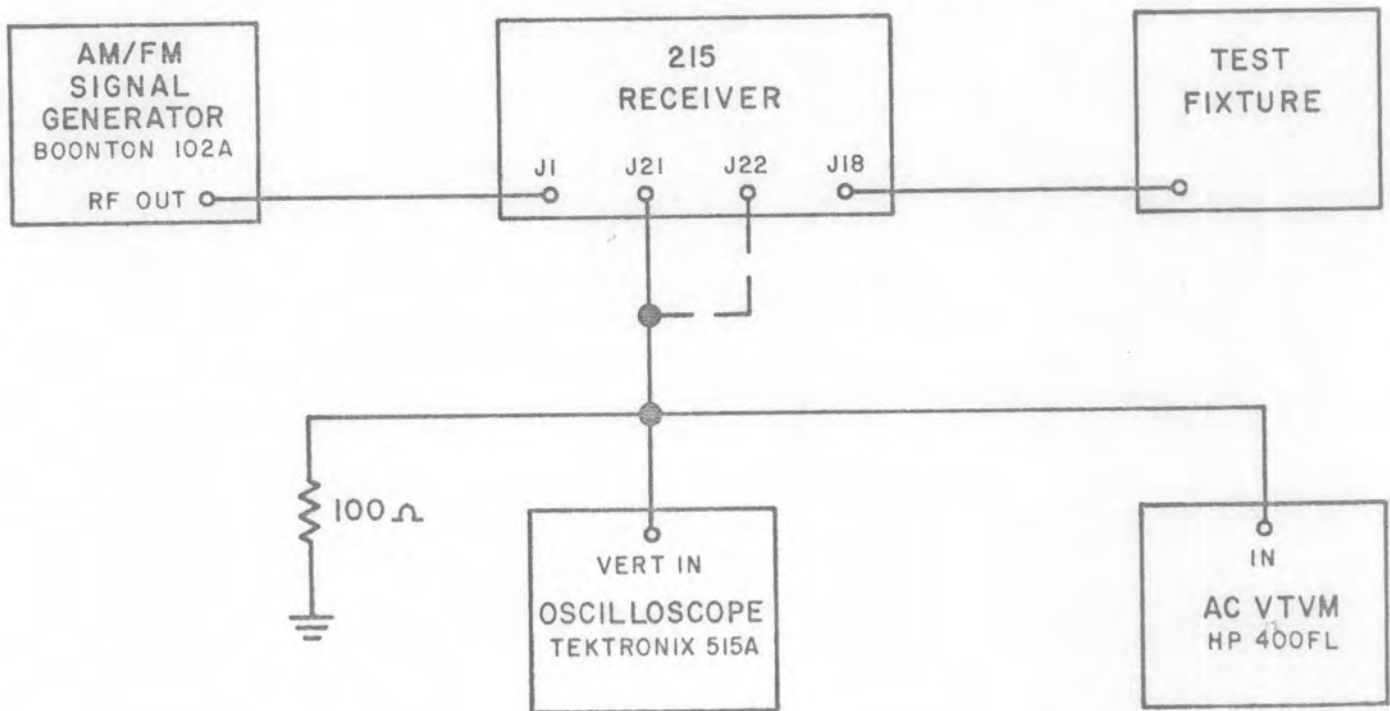

Figure 4-6. Test Setup, Remote AM/FM Select Check
(1) Connect the test equipment as shown in Figure 4-6.